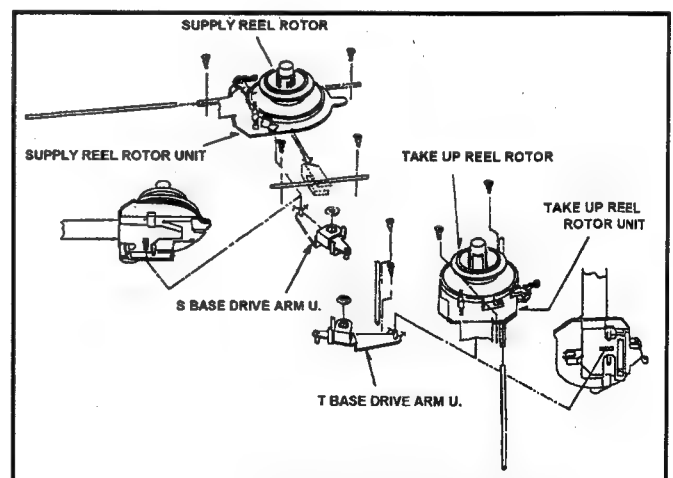

Fig. 6-3-3 Install of S & T Reel Rotor Unit
2. Hang on the Reel Rotor Unit to Reel Inner Rail and Install the Reel Rotor Unit then the pin of Drive Arm Unit should be matched with groove position of Reel Base as shown in Figure 6-3-3.
3. Install the 4 screws (C), (D) and (E).
7. Confirm that the Main Brake Torque. (Refer to item 5-3).
9. Adjust the S Reel Torque Offset value (Refer to item 2-1 of section 4).
10. Adjust the T Reel Torque Offset value (Refer to item 2-2 of section 4).
11. Adjust the S Reel Motor Torque Offset value (Refer to item 2-3 of section 4).
12. Adjust the T Reel Motor Torque Offset value (Refer to item 2-4 of section 4).